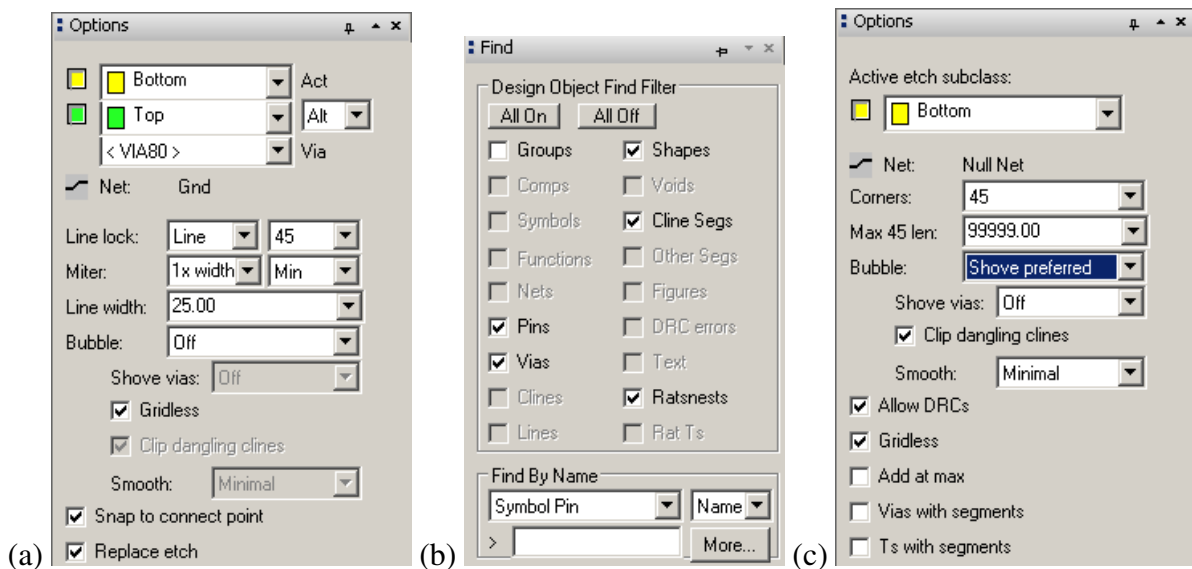

Figure 10. (a) Options and (b) Find control panels for the Add Connect command, and (c) Options for Slide.
2. The Options control panel changes to reflect the current activity and it now shows the layers available for routing. We want all the tracks to go on the bottom of the board so change the Act (active) layer to Bottom, which is painted yellow. You can also change the Alt (alternate) layer to Top, which is painted green, but we need only one layer for this circuit. Line lock should be 45 (degrees), which determines the allowed change in direction of a track. See figure 10(a) on the previous page.
The Find control panel (figure 10(b)) is automatically configured to select the relevant objects for routing: pins, vias, shapes, cline segments and ratsnests. (*Shapes* are typically areas of etch, which is why they are active.)
PCB Editor offers many ways of adjusting the tracks. First make sure that you are not still using the Connect tool by right-clicking and choosing Done if this appears on the contextual menu. Small adjustments to routed tracks can be made with the Route > Slide tool, which loads the Options control panel as shown in figure 10(c) on page 21. I suggest that you change Bubble from its default of Shove preferred, because this encourages Allegro to move tracks around in a startling manner; Hug only is more gentle. Click and release the mouse button on a segment to select it, slide it around and click again when you are satisfied with the result. Other helpful tools include Edit >Vertex and Edit > Delete Vertex.